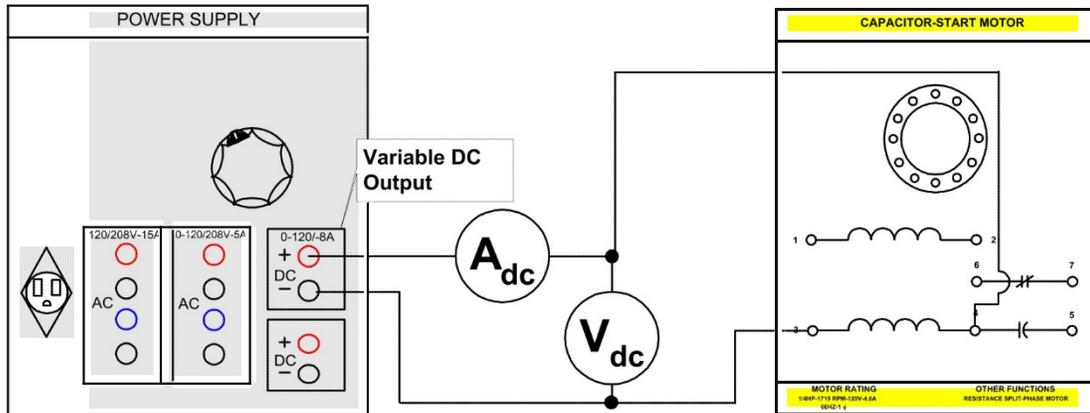

FIGURE 8.6
Step 9. Return the voltage to zero and turn off the power supply. Connect the circuit shown in Figure 8.6.